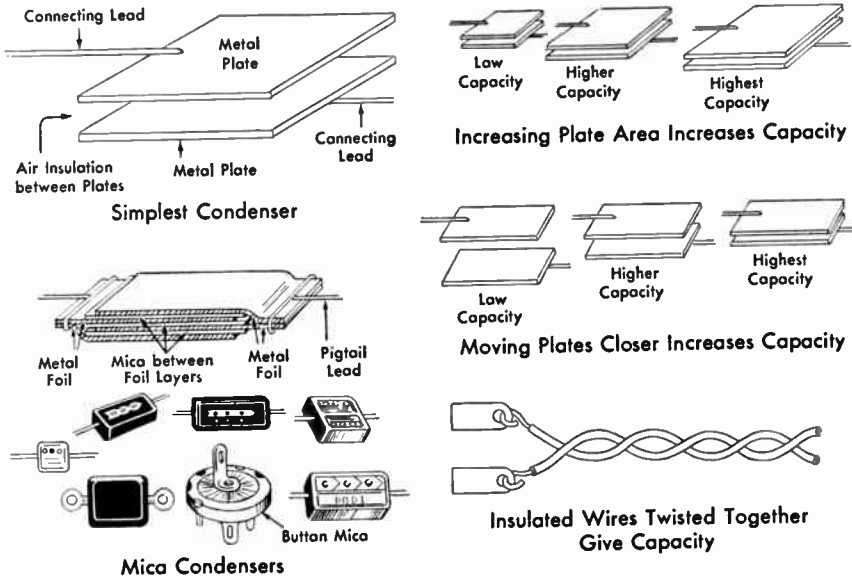

Fig. 1. Getting-acquainted facts about condensers, and examples of mica condensers
**Simple Condensers.** A very simple condenser can be made from two metal plates separated by air or other insulating material, as shown in Fig. 1. The condenser connecting leads are soldered or riveted to the metal plates.
Any two metal objects that are separated by insulation have capacity between, and hence form a condenser. Even two insulated wires have capacity when side by side or when twisted together. In some television and radio sets, short lengths of hookup wire twisted together are actually used to give extra capacity between two points, such as shown in Fig. 1.
**Mica Fixed Condensers.** One simple construction found in actual condensers is that used in mica condensers, also shown in Fig. 1. These have metal-foil plates separated by thin sheets of mica insulation. For higher capacities, additional plates and mica sheets are used in an interlocking comb arrangement. Practically all mica fixed condensers are encased in molded Bakelite to protect the thin foil plates and the mica from dirt and moisture.